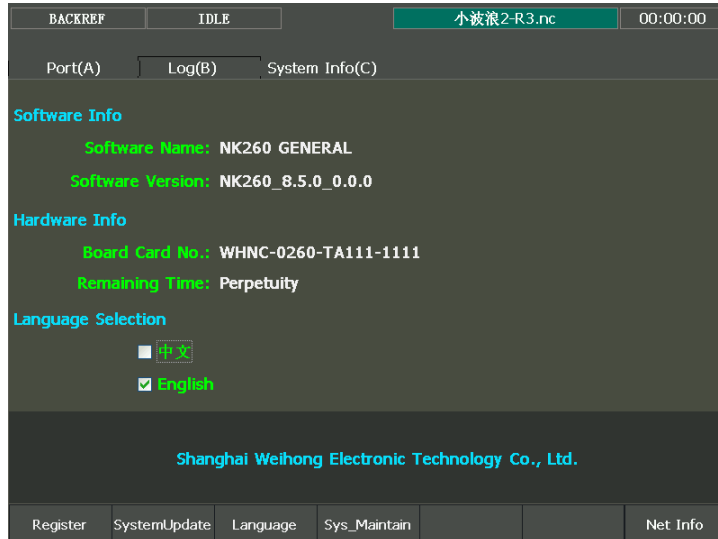

Fig. 3-55 System Information
Click the letter key C to enter [System Info(C)] screen, as shown in Fig. 3-55.
- 1) Enter [System Info(C)] screen, as shown in Fig. 3-55;